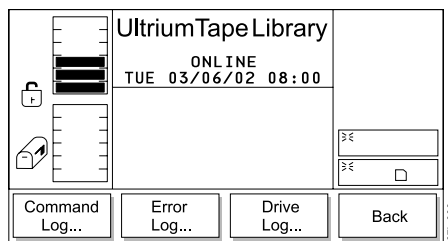

Figure 127. Logs Submenu
2. Press the button below the **Logs** softkey. The Logs Submenu displays (see Figure 127).
6. To return to the Logs Submenu (see Figure 127 on page 122), press the button below the **Cancel** softkey. To return to the Main Menu, press the button below the **Cancel** softkey, then press the button below the **Back** softkey until the Main Menu displays.